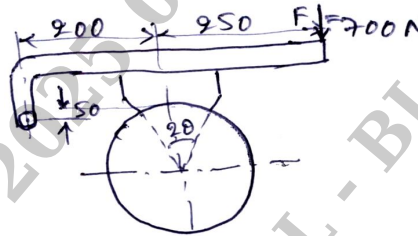

Fig.Q.9(b)
- b. A single block brake is shown in Fig.Q.9(b). The drum diameter is 250 mm. The contact angle is 90° . If an operating force of 700 N is applied at the end of the lever and the coefficient of friction is 0.35, determine the torque that may be sustained by the brake. (10 Marks)